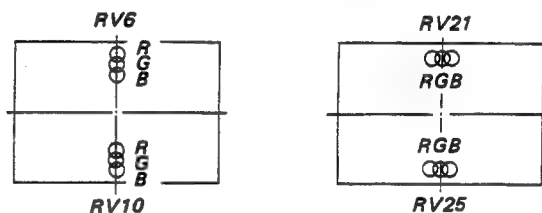

Fig. 1-12.
3. Adjust RV6, RV10, RV21 and RV25 on the DC board to coincide with the R, G and B dots as shown in Fig. 1-12.